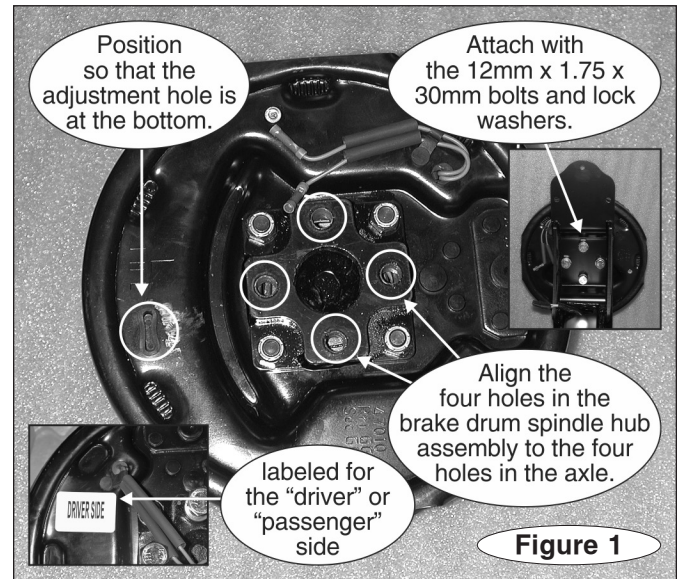

Figure 1
1. First, attach both of the brake drum spindle hub assemblies (Figure 1) to the axles – the drums are labeled “driver” or “passenger.” Attach the brake drum labeled “driver” to the driver’s side axle, and the brake drum labeled “passenger” to the passenger side axle.
Position each brake drum spindle hub assembly so that the four holes align to the four holes in the axle, with the adjustment hole at the bottom (Figure 1).
With the provided 12mm x 1.75 x 30mm bolts and lock washers, attach the brake drums from the inside of the hub assemblies (inset, Figure 1). Torque each bolt to 59 ft./lbs.